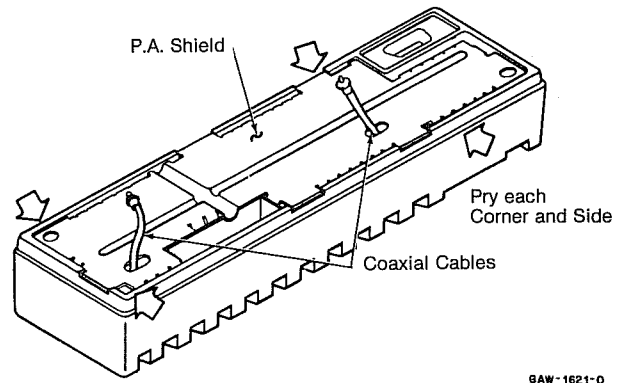

Figure 15
(1) Remove the power amplifier shield by carefully prying each corner and side until you can slide the shield off easily (Figure 15). Remove the shield completely by guiding the coaxial cables out.